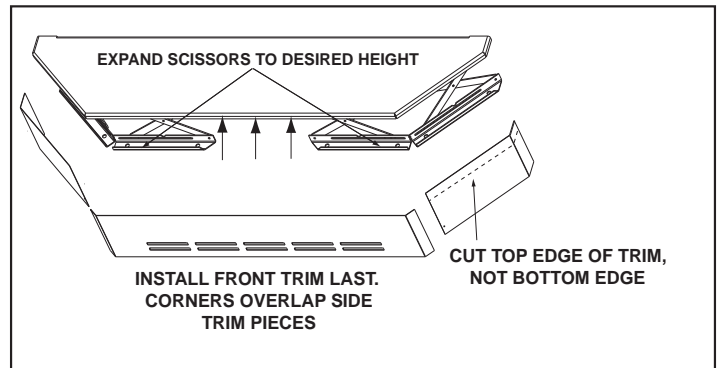

Figure 24.2
2. Expand scissors to desired height. Tighten screws to hold in place using Phillips Head screwdriver. **Figure 24.2.**
3. Measure front and side trims to required height to cover scissors and mark pieces for cutting. Cut excess material from top of trims edge, not bottom. This edge will be sharp; wear gloves to prevent injury to your hands. **Figure 24.2.**
4. Using sheet metal shears, cut trim along the marked edge. The cut edge fits under lip of top trim, so it allows for some variance in your straight edge. **Figure 24.2.**